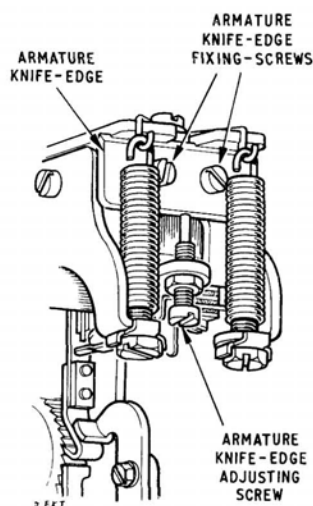

FIG. 11
8. Armature knife-edge.—This should be positioned by means of its adjusting screw (see Fig. 11) so that when the armature is manually operated the following conditions obtain:—